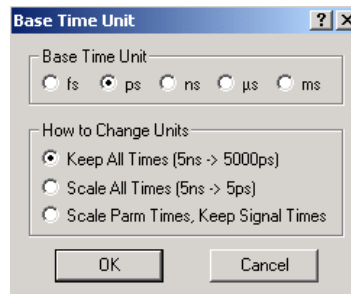

Figure 8-3. Base Time Unit Dialog Box
1. **From the Options menu, click *Base Time Unit*.** This displays the Base Time Unit dialog box, as shown in Figure 8-3.